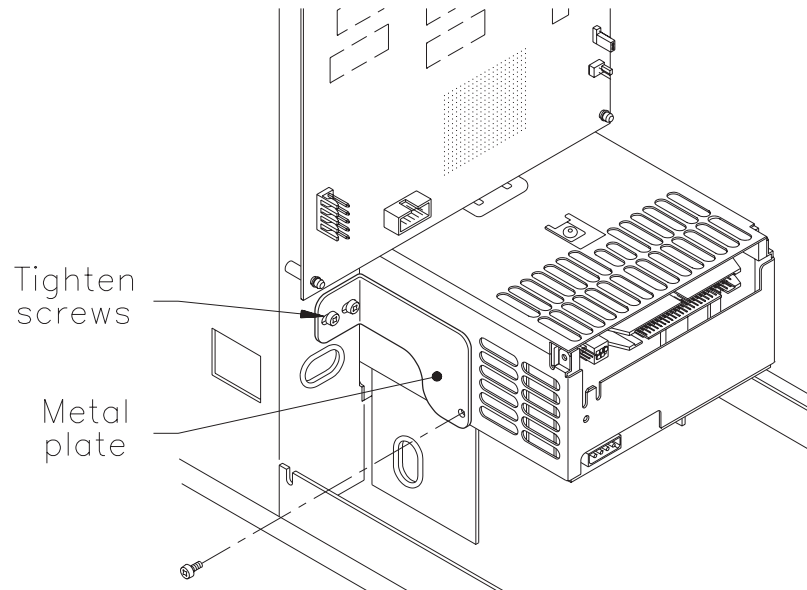

Figure 3-15 CTS mounting screws (right side view)
8. If your EXB-10i has a metal plate that attaches to the inner frame and to the CTS on the right side of the EXB-10i (shown in Figure 3-15), tighten the two screws (shown by the arrow) to 12 inch-pounds (13.8 kg-cm) of torque.